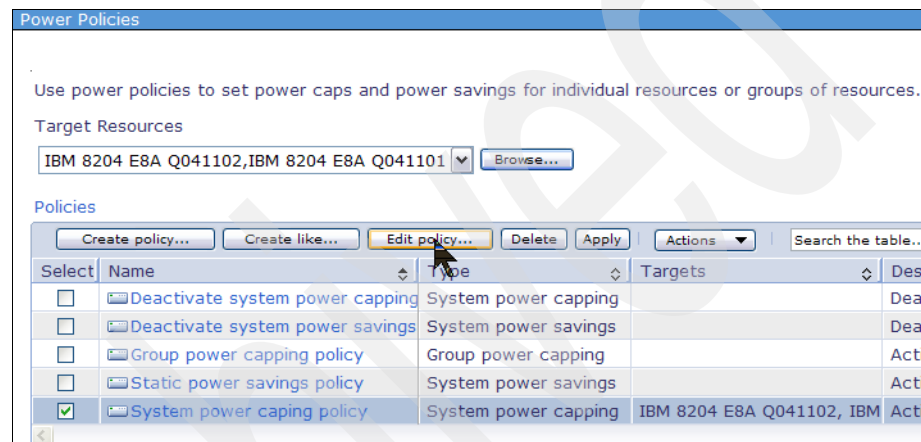

Figure 7-77 Editing a policy
2. In the display shown in Figure 7-77, select the policy that you want to edit, and click **Edit policy** to start the Power Policy Editor Wizard.